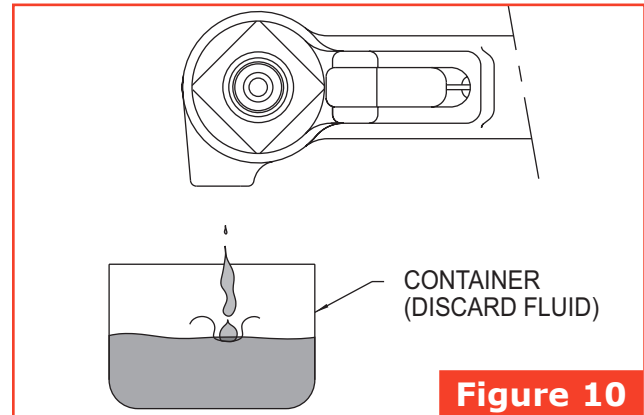

Figure 10
1. Lay the tool on its side with the fill port facing up, and remove the bleed plug (55) from the fill port.
2. Connect the tool to shop air-line. If fluid is present, hold the tool over a suitable container with fill port facing into container. Cycle the tool several times to drain old fluid, air, and foam. (Figure 10)